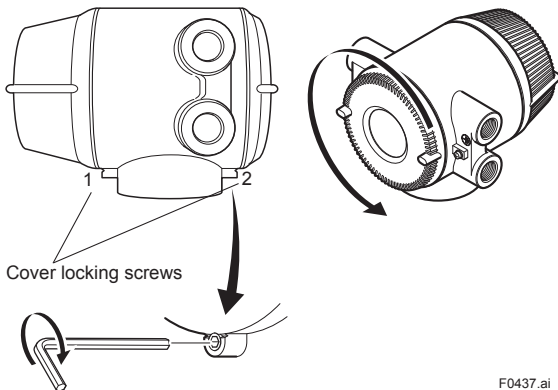

Figure 4.3.5 Removing the Terminal Box Cover for AXFA14 Remote Converter
- The terminal box cover is locked by the special screw. In case of opening the terminal box cover, use the hexagonal wrench attached. For handling the locking screw, refer to Figure 4.3.5.